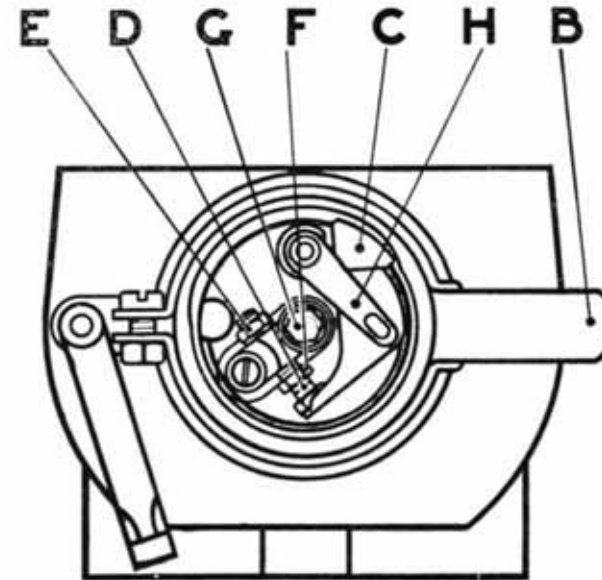

FIG. 6.
If adjustment is necessary, turn the engine round slowly until the points are seen to be fully opened, then using the magneto spanner, slacken the locking nut "E" (Fig. 6), and rotate the fixed contact screw by the hexagon head "F" until the gap at "D" is set to the thickness of the gauge; then screw up the nut "E" again until it is firmly locked.
or if it is merely the gap that is too large, it may be adjusted (see page 18). Missing with full throttle is sometimes due to the plug gap being too wide. Bad plug insulation is sometimes caused through sooting, and may occasionally be remedied by washing the plug out with petrol. It is sometimes recommended to remove the plug, and, allowing the body to rest on the cylinder head, to observe whether a spark occurs at the points when the engine is slowly turned. It should, however, be noted that this is only a rough test, since it is possible that a spark may not take place when the plug is under compression. If it is suspected that the ignition has failed completely, this may be checked by removing from the plug terminals the high-tension cable and observing whether a spark takes place on turning the engine round with the terminal lead held about $\frac{1}{8}$ " from some metal part of the engine. If no spark occurs, examine the contact breaker; slowly turn the engine over, and observe the action of the contact breaker rocker arm; it is possible that the arm is not answering to its control spring, and is remaining permanently open as it is rotated. If this appears to be so, remove the contact breaker and applying pressure with the finger on the fibre heel "C" (Fig. 6), observe whether the points readily open and close. If they are at all sluggish, push aside the locating spring "H" (Fig. 6), and prising the rocker arm off its bearing, examine the steel pin on which it works, cleaning this, if required, with fine emery cloth, wiping away all grit, and moistening the pin with oil before replacing the lever. We need hardly warn the reader that no trace of oil should be left anywhere near the contact points after this has been done.
4. With the " Magdynos " provided with variable ignition, the ignition control or the timing lever " B " (Fig. 6) should be moved to the fully retarded position, that is, to the limit of its travel in the forward direction.